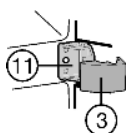

Fig. 18
- ▶ Clip onto the middle bearing support *Fig. 18 (11)* the cover *Fig. 18 (3)*.